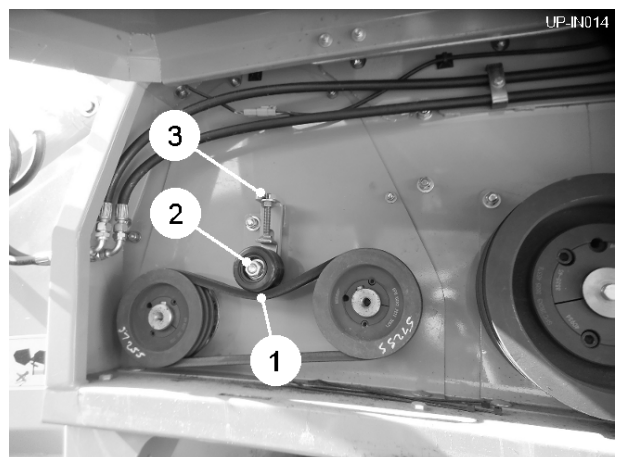

Fig 22
On machines fitted with boulder stars, the 'V' belt tension to each star shaft is set by a roller (item 1, fig 22). To adjust the tension, loosen the spindle bolt (item 2, fig 22) and reset the adjuster nuts (item 3, fig 22). The belts should be tensioned just enough to give a positive drive without slipping.